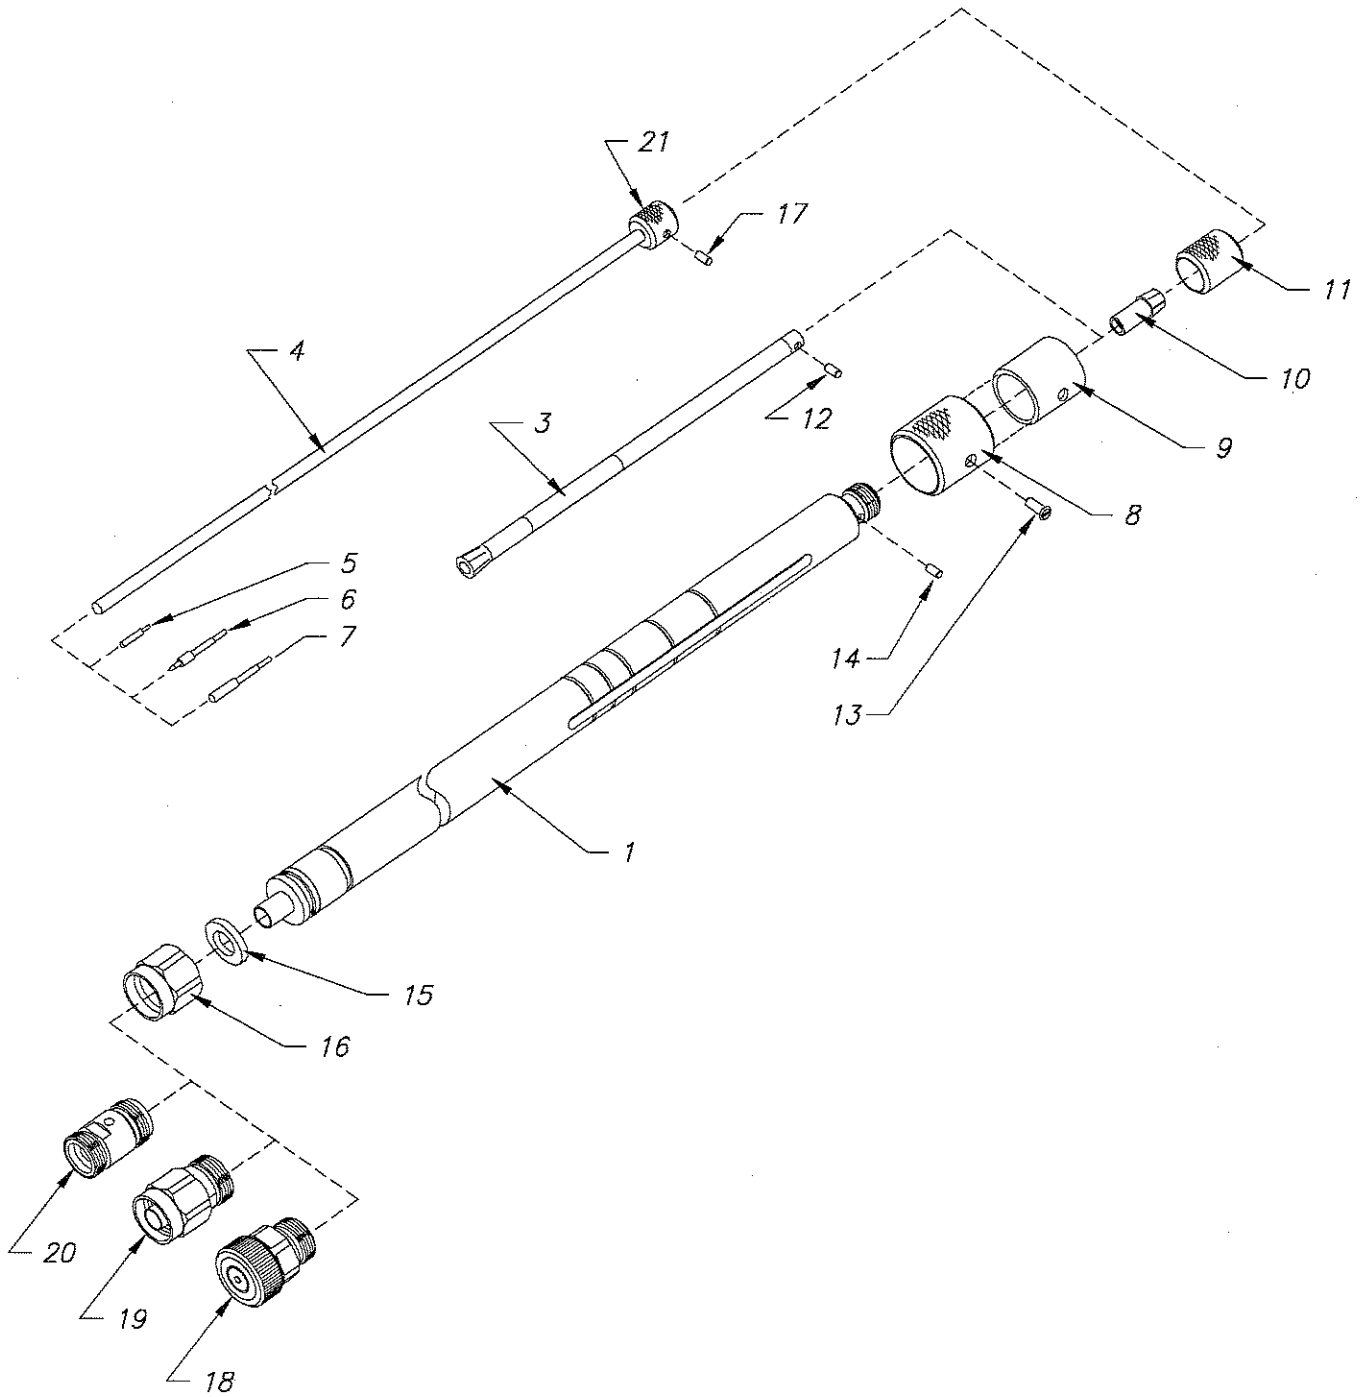

FIGURE 4.1: PRECISION SLIDING SHORT
4.1 This section contains information for ordering replaceable parts. Table 1 provides the model number and description required to order additional components. Also, the column listing the item numbers in Table 1 corresponds to the referenced item number on the components in Figure 4.1.
4.2 The components shown in Figure 4.1 reference the item numbers that correspond to the item numbers listed in the item column in Table 1 (the instrument case and wrench are not shown in the figure).